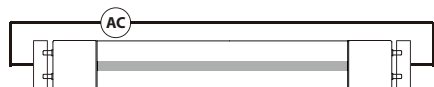

Fig:1 - Double-Ended Connection
- 6) RAB LED T8 lamps are designed for double-ended connections (Fig. 1).